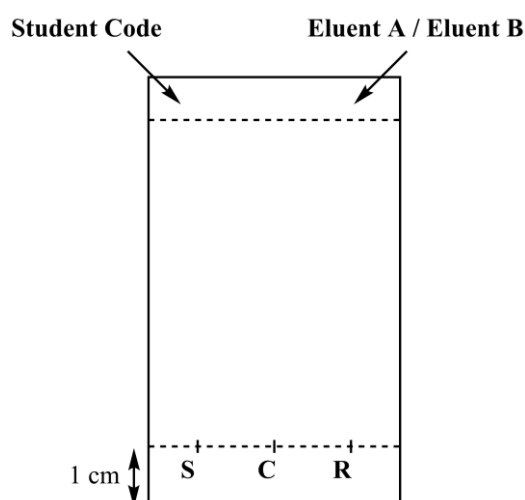

Figure 3. TLC plate preparation
- Prepare your TLC plate.** Use a pencil to **draw** carefully the start line (1 cm above the bottom of the plate) and **mark** the positions in order to spot the 3 samples. **Label** them **S** (Starting material), **C** (Crude product) and **R** (Recrystallized product), as described in Figure 3. On the top left of the plate, **write** your **Student Code**. On the top right of the plate, **write** the eluent you use (first **Eluent A**, then **Eluent B**). **Spot** the three samples on the plate, using capillary spotters.